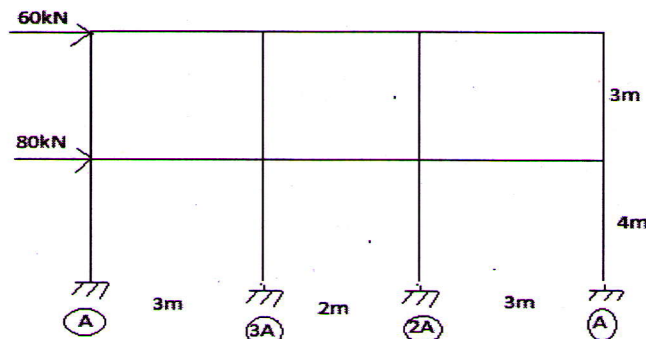

Fig 1
- 1 a) What are the assumptions in cantilever method of analysis? (2)
- b) Analyse the frame shown in figure 1 using cantilever method. Cross-sectional area of members are shown in figure. (13)